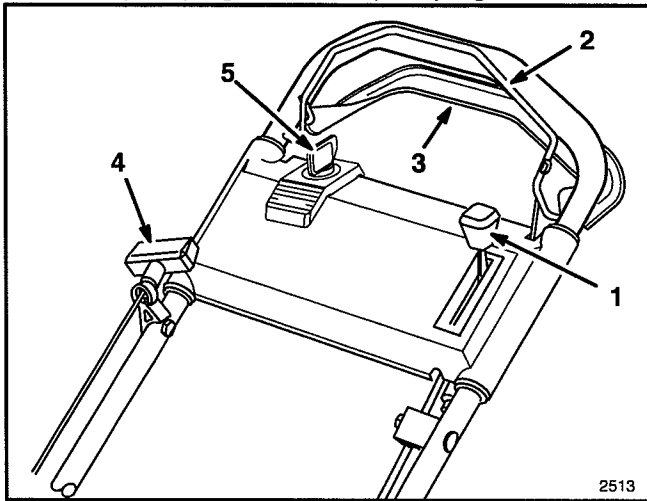

Figure 9
**CONTROLS**—Throttle, blade control bar, self-propel control bar, recoil starter and key switch (electric start model) are on upper handle (Fig. 9).